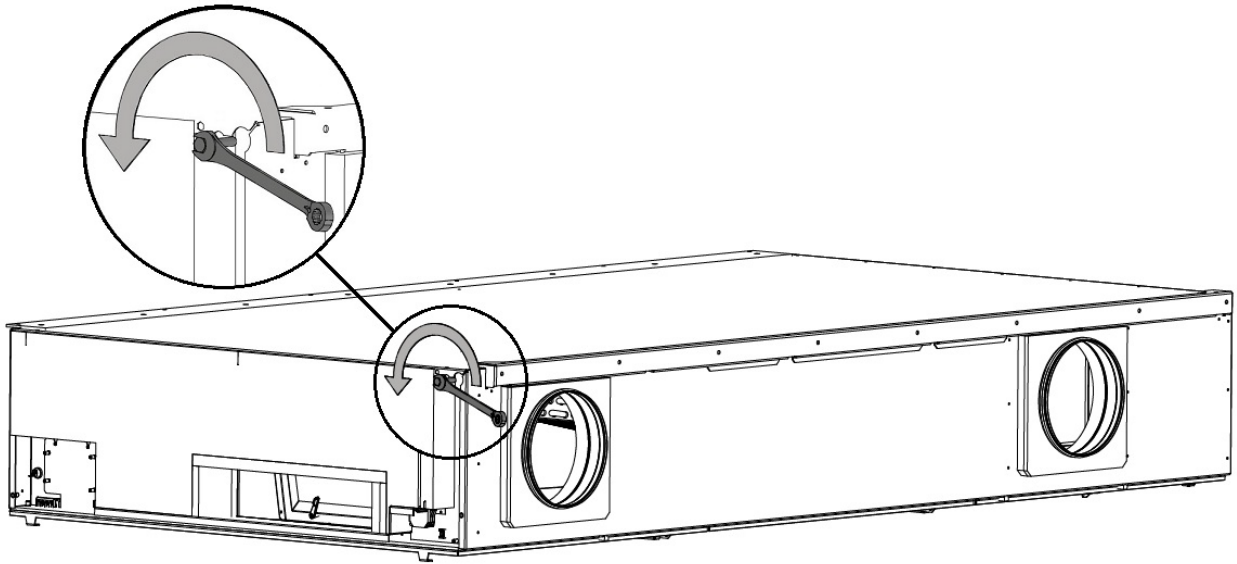

*Figure 5: Disassemble the side cover, right-hand side*
2. Disassemble the right-hand side cover, see Figure 5. Carefully place the cover on a protective underlay to prevent scratches to the surface.